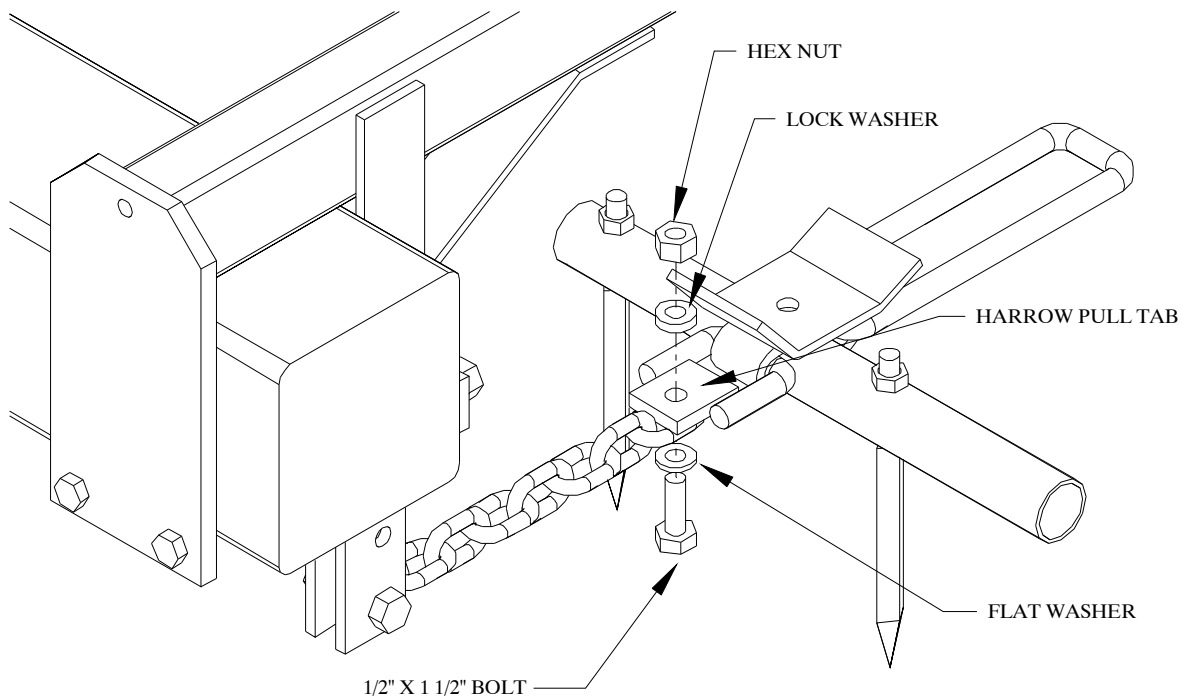

Figure 16
1. Bolt the pull chains to the front tabs on the harrow sections. Refer to Figure 16. Use $\frac{1}{2}$ " x $1\frac{1}{2}$ " bolts, flat washers, lock washers, and hex nuts. The chains should be bolted to the bottom of the pull tabs. Make sure that the chains are not twisted.
1. Bolt the pull chains to the front tabs on the front harrow sections. Refer to Figure 16. Use ½” x 1 ½” bolts, flat washers, lock washers, and hex nuts. The chains should be bolted to the bottom of the pull tabs.
1. Bolt the pull chains to the front tabs on the harrow sections. Refer to Figures 16 and 19. Use ½” x 1 ½” bolts, flat washers, lock washers, and hex nuts. The chains should be bolted to the bottom of the pull tabs.